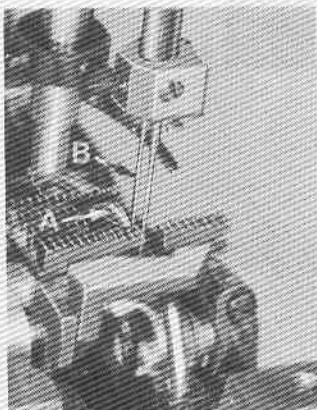

Fig. 8
The looper is set correctly in line-of feed, if, as it moves to the left, behind the needle, its point (A, Fig. 8) brushes, but does not pick at the rear of the needle (B).